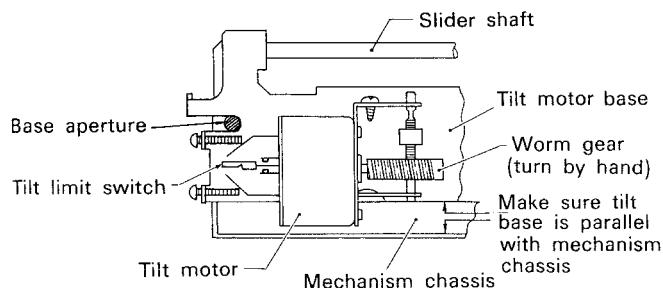

Fig.7-2 Parallel alignment of the lower surface of the tilt motor base and rib section of the mechanism chassis
5. Align the height of the tilt match to the base aperture as shown in Fig.7-2 by manually turning the end of the tilt sensor assembly motor worm gear.